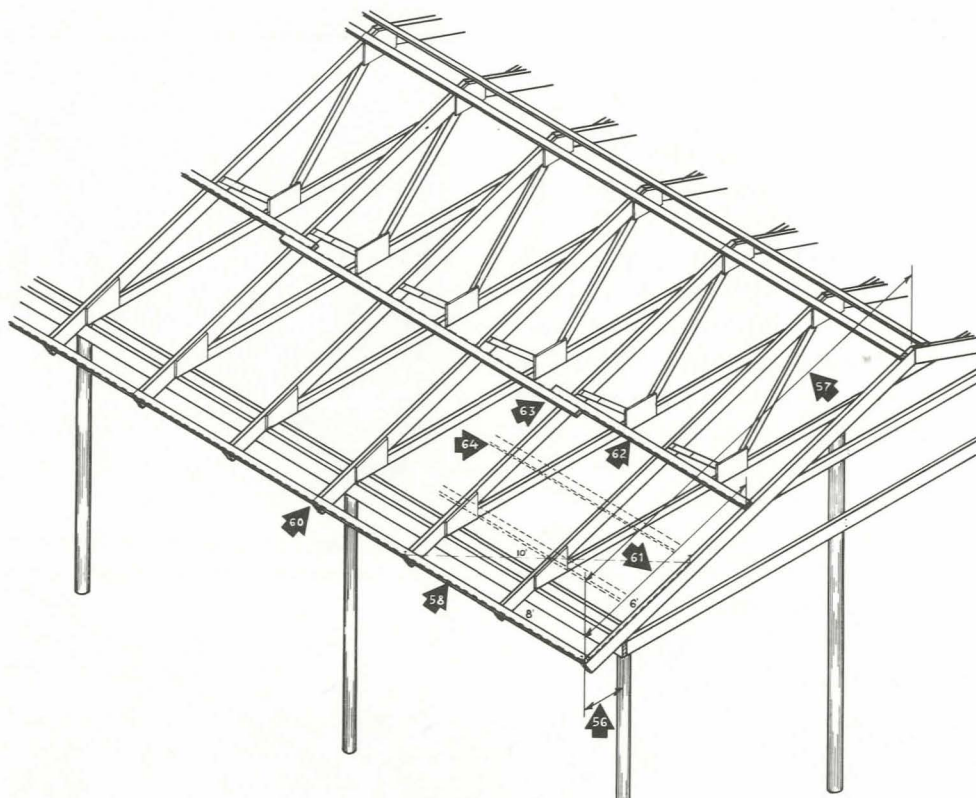

Fig. 15.
56. Measure the plate-to-eave distance of the end rafters on one side of the building (see Fig. 15).